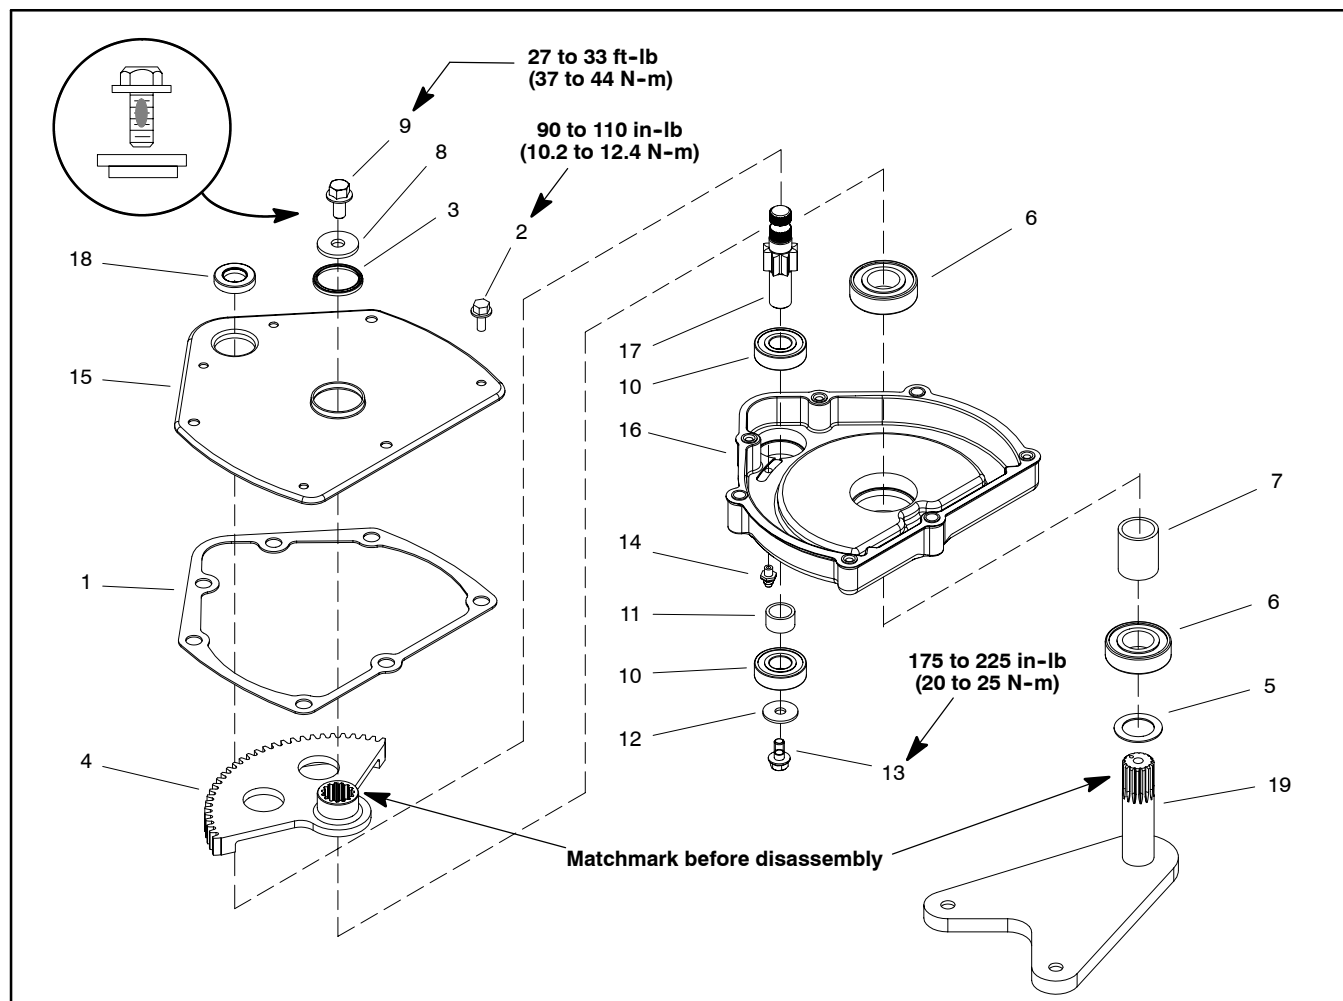

Figure 5
Disassembly (Fig. 5)
Assembly (Fig. 5)
8. Secure stepped washer and flange head screw with patch lock (item 9) to the Pitman arm (item 8). Make sure to position stepped washer as shown in Figure 5. Torque screw from **27 to 33 ft-lb (37 to 44 N-m)**.
9. Secure flat washer (item 12) and flange head screw with patch lock (item 13) to the pinion gear shaft. Torque screw from **175 to 225 in-lb (20 to 25 N-m)**.